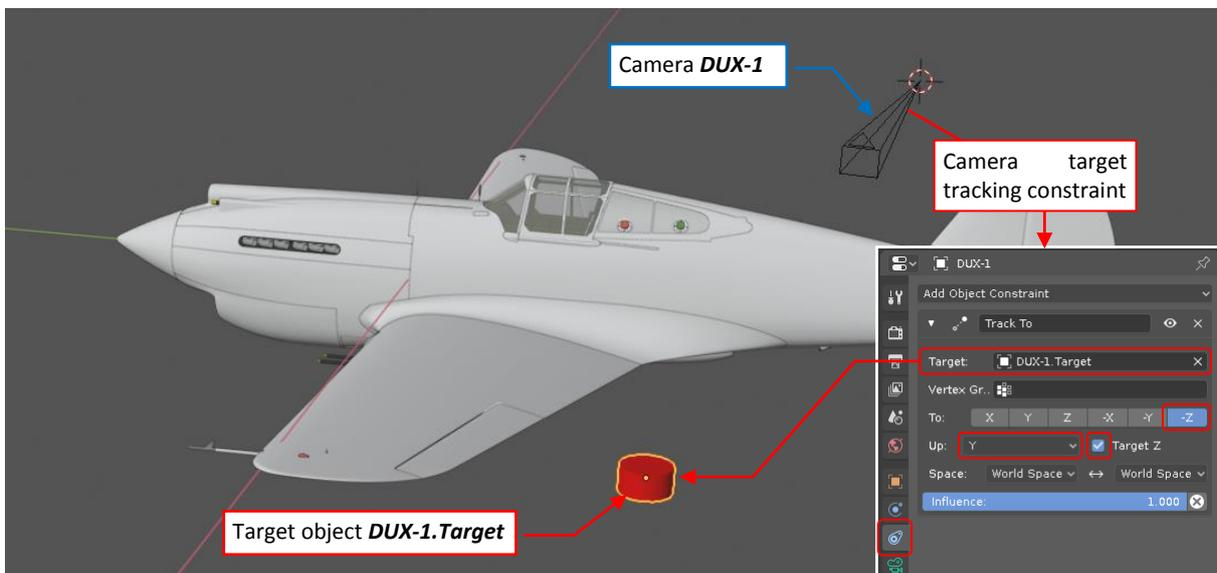

Figure 103-5 Adding camera target object
*Set up your **Track To** constraint precisely in the same way as shown in DUX-1 properties in Figure 103-5. Otherwise you will not be able to complete this tutorial, because the camera target will not “work as described” here.*